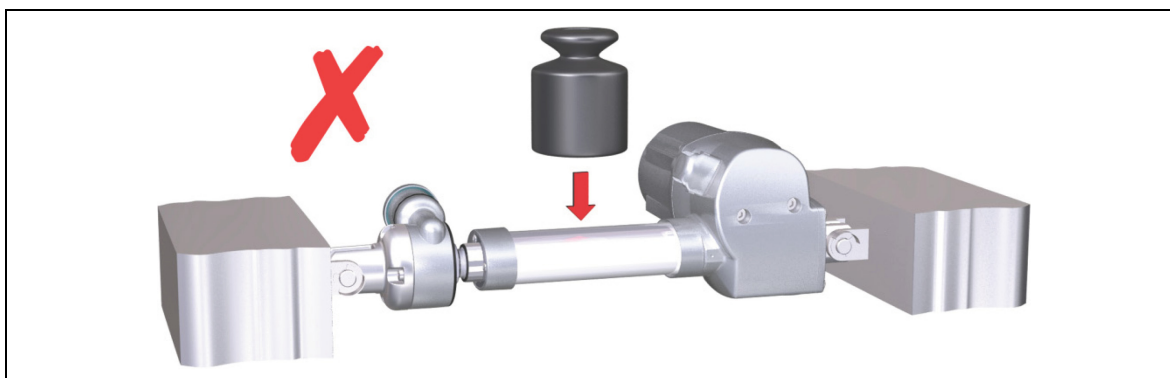

Figure 18 The effect of the installation position
- The release force will increase, for example, if the drive unit is subjected to a lateral force from other attachments. The resulting release force may be far over the specification. (Figure 18 shows a horizontally installed drive unit with a lateral force acting upon it.)